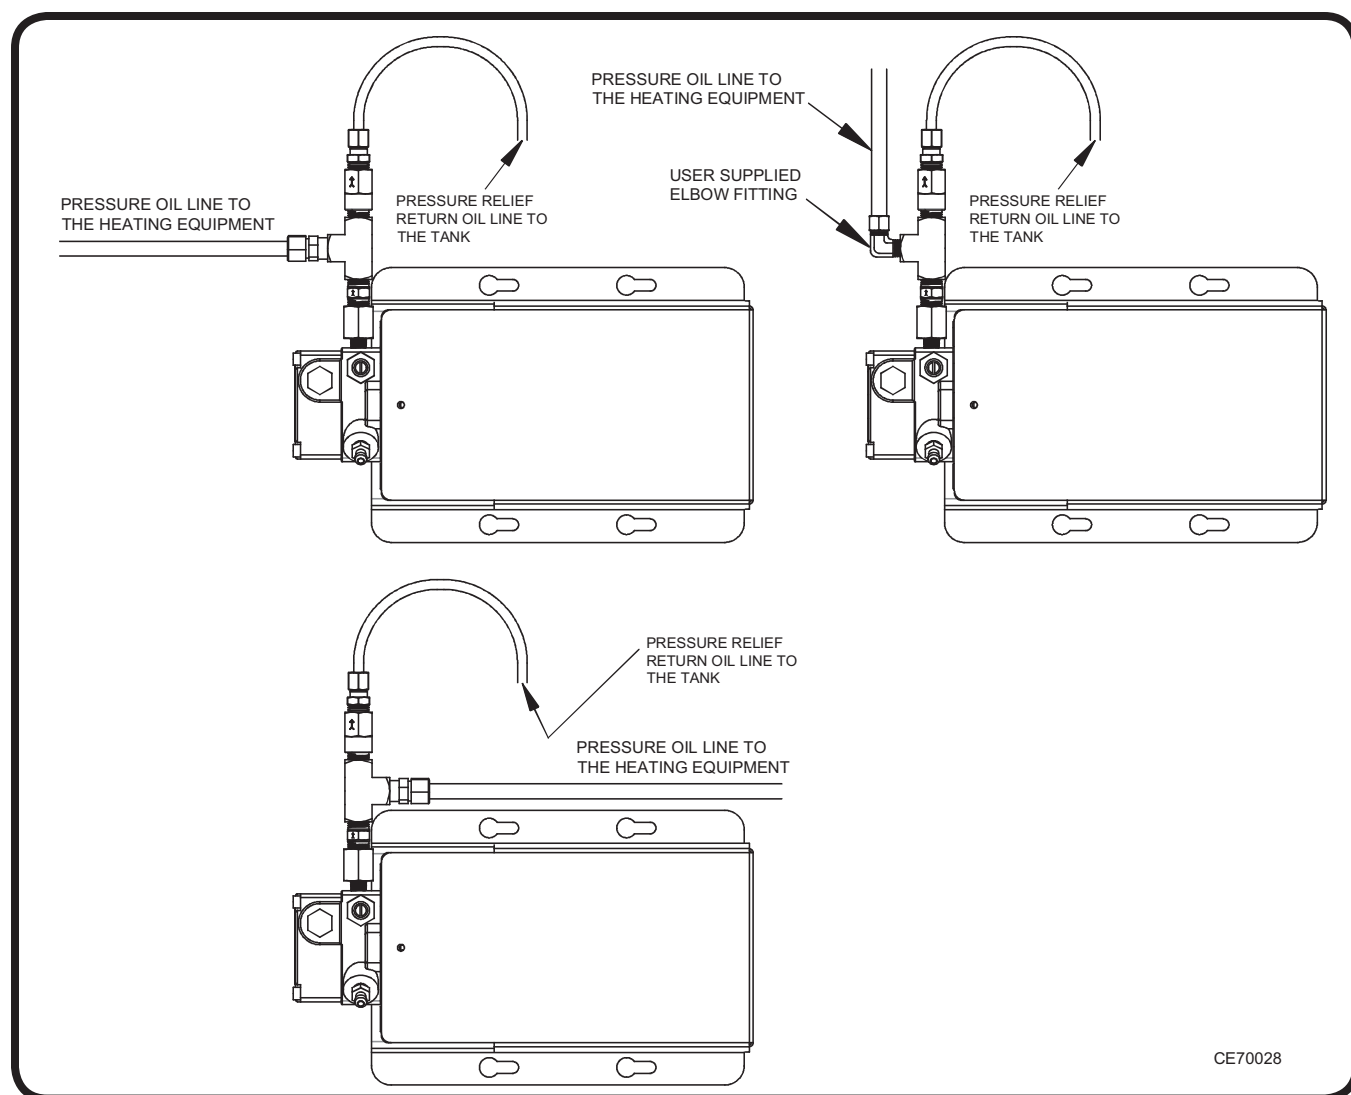

Figure 17: Metering Pump Oil Outlet Options
- (1) Refer to Figure 17 to view the pump oil outlet options.
- (2) Determine the desired position of the oil outlet and rotate the 1/4" T accordingly.
- (3) Determine the length of copper tubing needed for the pressure line (from pump to boiler) and use the appropriate sized tubing. If the pressure line is less than 100 feet, 3/8" copper tubing can be used. If the pressure line is greater than 100 feet, use 1/2" copper tubing.